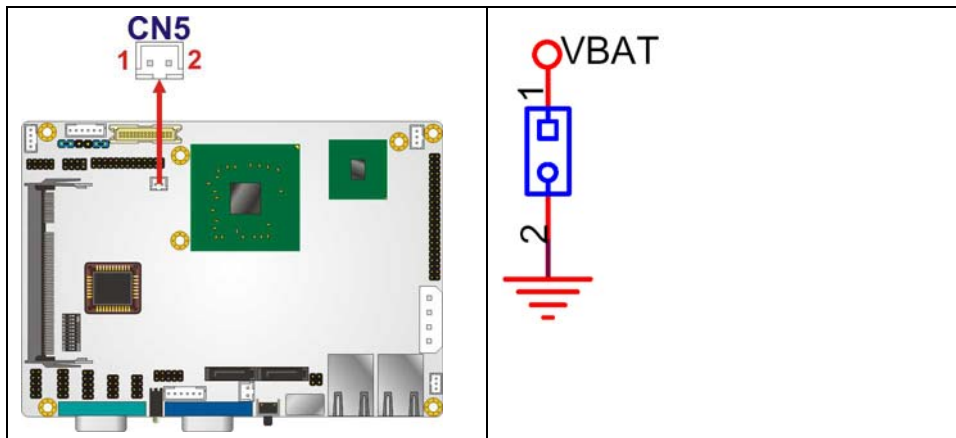

Figure 4-5: Battery Connector Location
- CN Location:** See **Figure 4-5**